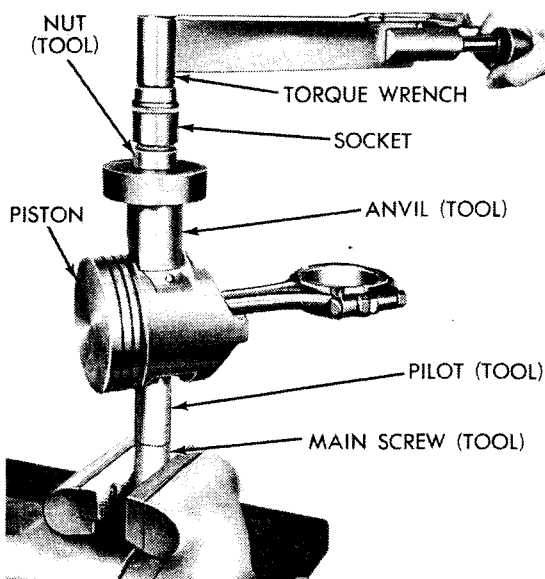

Fig. 35—Testing Fit of Piston Pin in Connecting Rod
(11) Place assembly in a vise (Fig. 35).
(12) Attach torque wrench to nut and test torque up to 15 foot-pounds. If connecting rod moves downward on the piston pin, reject this connecting rod and piston pin combination. Install a new connecting rod and repeat the installation and testing procedure.